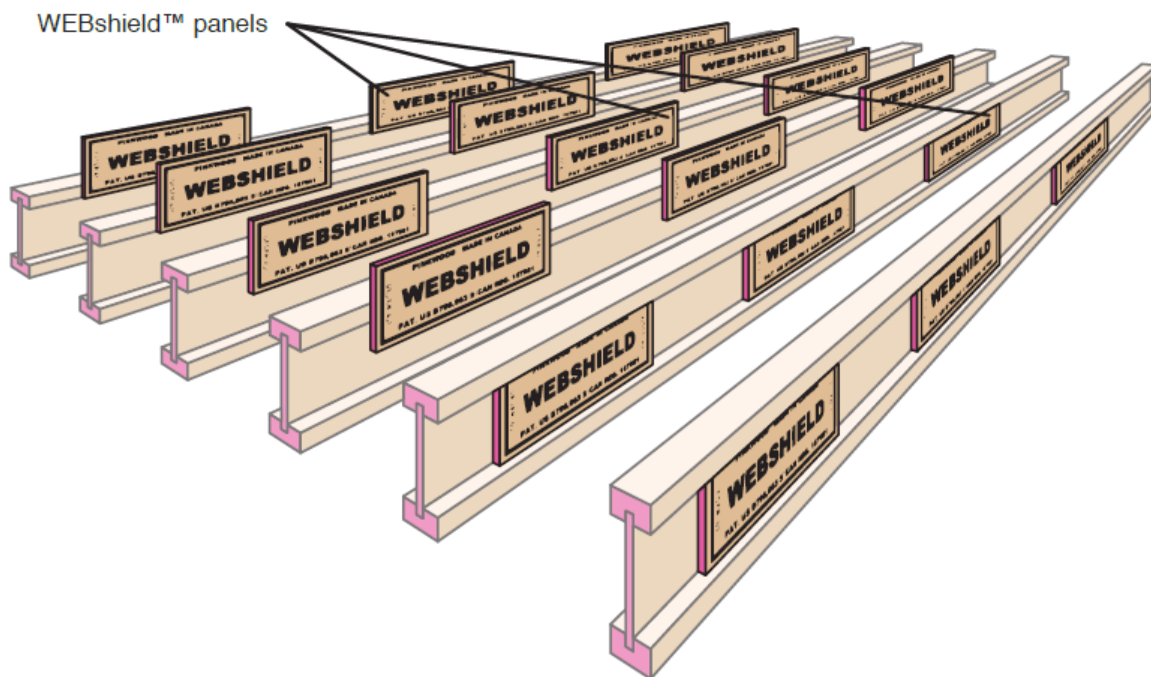

FIGURE 1 – WEBSHIELD panel frequency
Yes and No. When WEBSHIELD protected I-joists are required, the allowable hole size and location must conform to Pinkwood's published hole chart or Pinkwood's software calculations with the added condition that one (1) single maximum 6-inch-diameter hole may be cut into each WEBSHIELD panel if the panel position as described in Figure 1 is not avoidable. This single 6" hole is allowed without the need for engineering analysis and is included in UES-ER0431. Under this condition, when a 6" maximum hole is cut in a WEBSHIELD panel, an additional 6" wide WEBSHIELD panel section must be fastened on each side of I-joist web as described in Figures 1 and 2, using one staple top and bottom in accordance with Pinkwood's installation instructions. The additional WEBSHIELD panel shall be installed beside the penetrated WEBSHIELD panel adjacent to the hole. The holes shall meet the spacing rules and other requirements contained in the PK-USA's PKI Series I-joist installation details. Holes larger than 6" are allowed to penetrate through a WEBSHIELD panel but must be reviewed by a licensed design professional. Additional WEBSHIELD protection is required as stated earlier but must be sized to correspond with the penetration size.
However, the WEBSHIELD panel frequency of 48" o.c. maximum spacing is a requirement. (see Figure 1) ASTM E-119 testing per AC-14 confirms the capacity of the WEBSHIELD protected joist ensuring the I-joist can be cut and consumed as any standard I-joist.